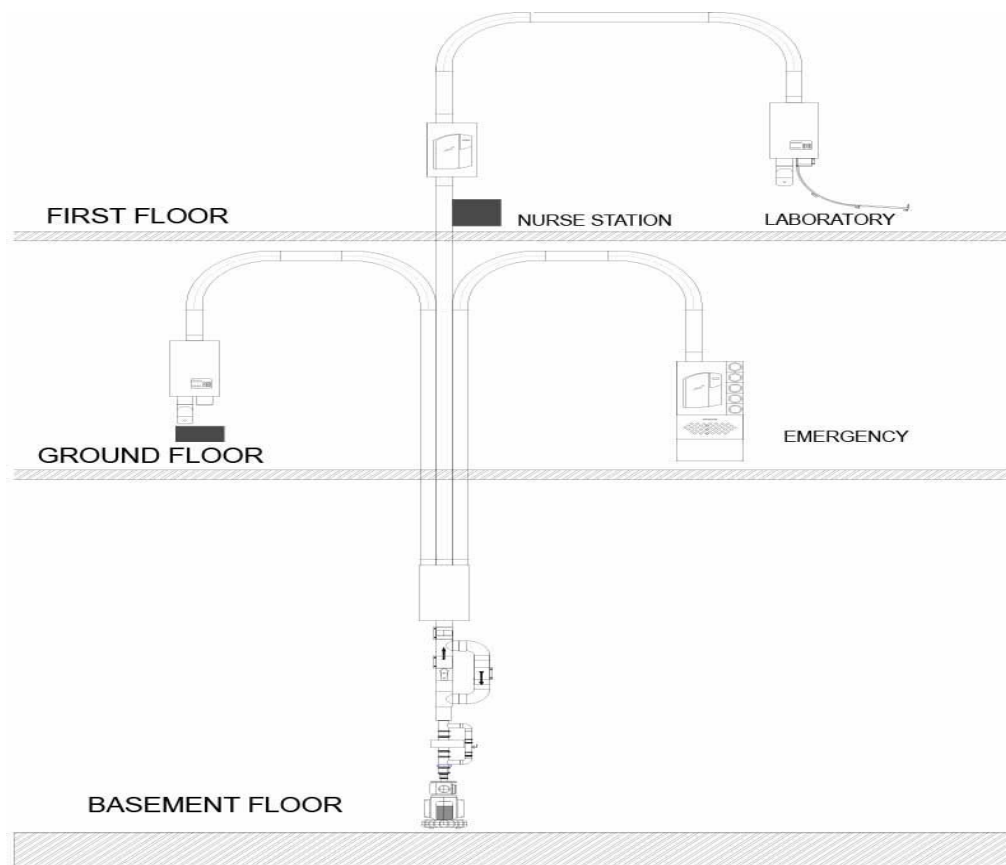

Figure 9.1 – Typical Pneumatic Tube System Layout – Single Zone System
- The PTS can be constructed as a single-zone-system or as a multi-zone-system. The major components of such a system include the blower, tubes, stations, diverters, carriers and the central control unit that forms the command centre of such a system. Figure 9.1 shows a single zone operation with 4 stations (two stations on the Ground Floor, two stations on the First Floor and the blower and diverter in the basement area).
- Each healthcare facility PTS is designed for its respective facility. Figure 9.1 below shows an example of PTS.